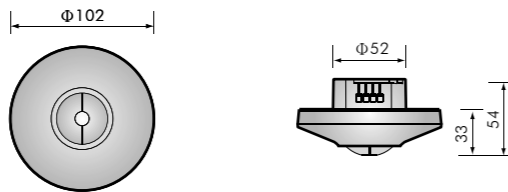

FIG.1-A
- OS-384i-DALI-230 : Φ102 x 54mm (See FIG.1-A)